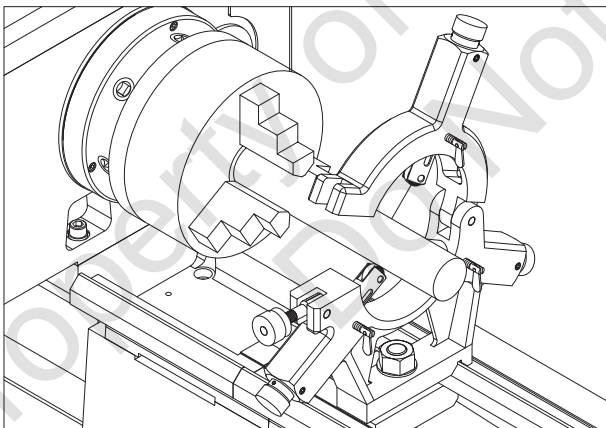

Figure 30. Workpiece mounted in the steady rest.
4. Loosen the lock knob and open the steady rest so the workpiece can rest on the bottom two finger rollers, as shown in Figure 30.